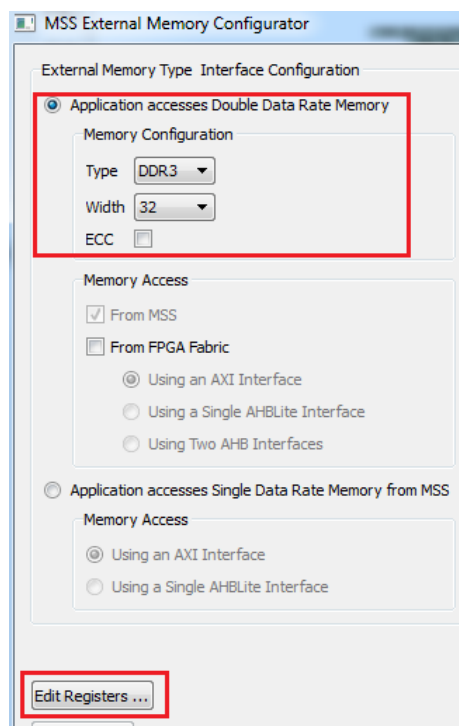

Figure 1-23 • MSS External Memory Configuration
3. Configure the MDDR as shown in Figure 1-23. In this example, the design is accessing DDR3 with a 32-bit data width.